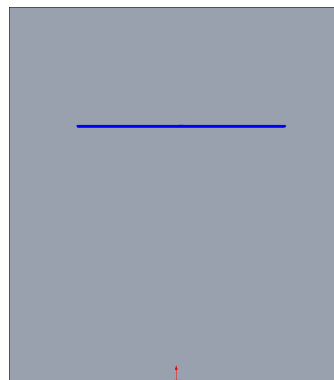

Fig. 26
Step 5. Sketch a horizontal line, **Fig. 26**.